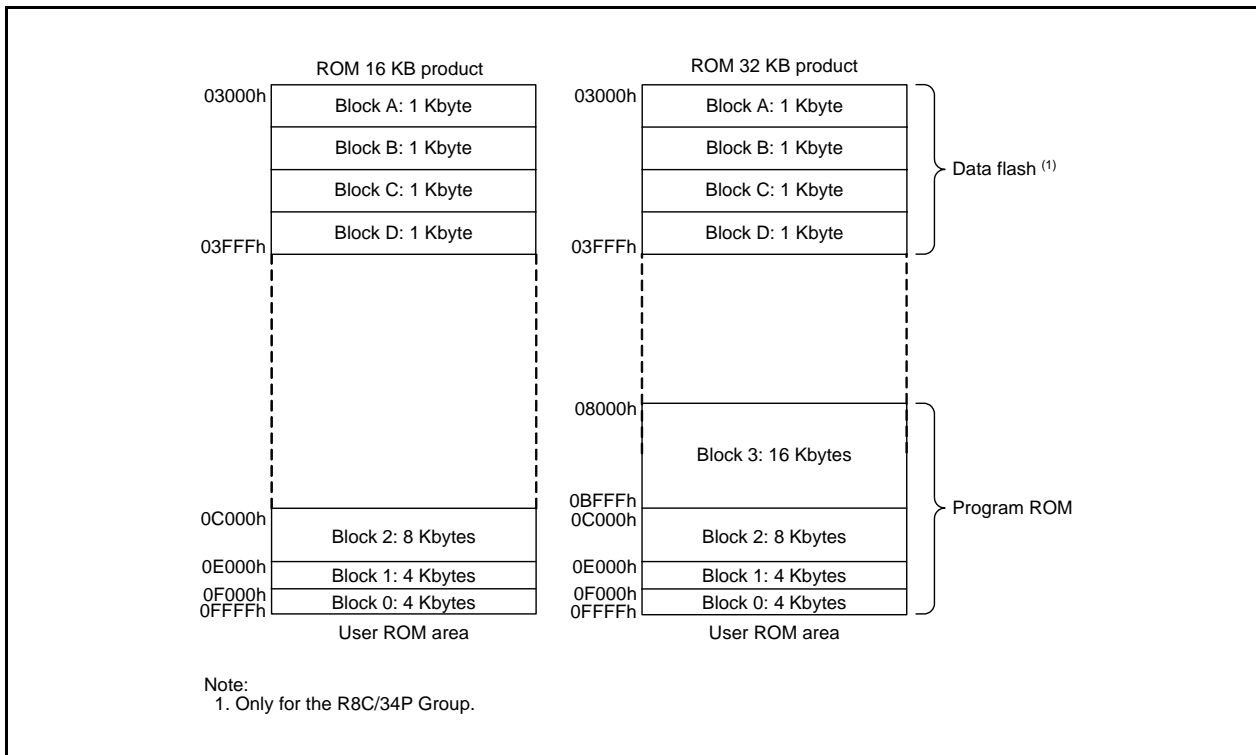

Figure 28.1 R8C/34P Group, R8C/34R Group Flash Memory Block Diagram
3. The number of blocks and block division vary with the MCU. Refer to **Figure 28.1 R8C/34P Group, R8C/34R Group Flash Memory Block Diagram** for details.
- The number of blocks and block division vary with the MCU. Refer to **Figure 28.1 R8C/34P Group, R8C/34R Group Flash Memory Block Diagram** for details.
Figure 28.1 show the R8C/34P Group, R8C/34R Group Flash Memory Block Diagram.